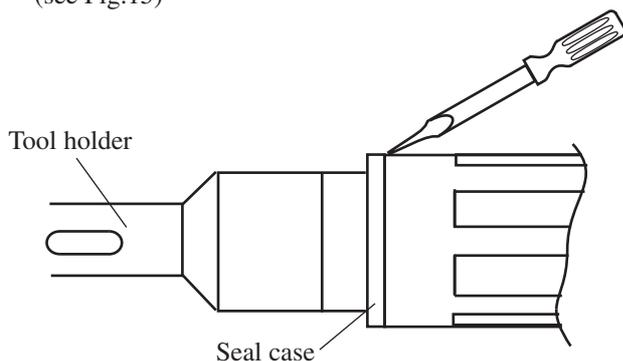

Fig. 14
1. Seal case can be removed with a slotted screwdriver easily. (see Fig.14)